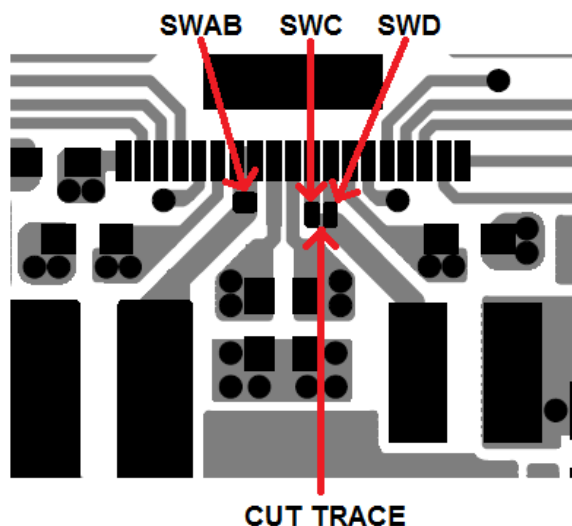

Figure 5. Cut SWC and SWD Connection Near Pins
- Any switch node associated with a  $V_{IN}$  trace that was cut will also need to be cut. The SWC/SWD traces and SWD/SWF traces can be cut in between the pads near the SW pins as shown in Figure 5. The SWG/SWH traces only need to be cut for the 4112 configuration. SWH needs to be cut between the SWH pin and L4 as shown in Figure 6.
- All switch nodes of adjoining power stages will need to be connected together. Each power stage has a pad to solder a small bus wire, 28AWG. The switch node pads are also shown in Figure 5 and Figure 6. Carefully solder a bus wire as short as possible between adjoining power stages.